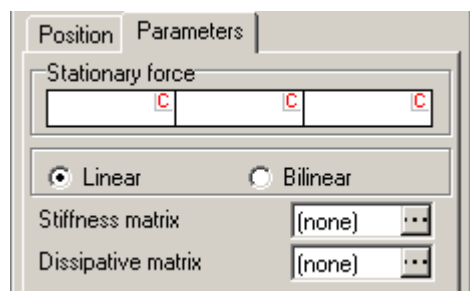
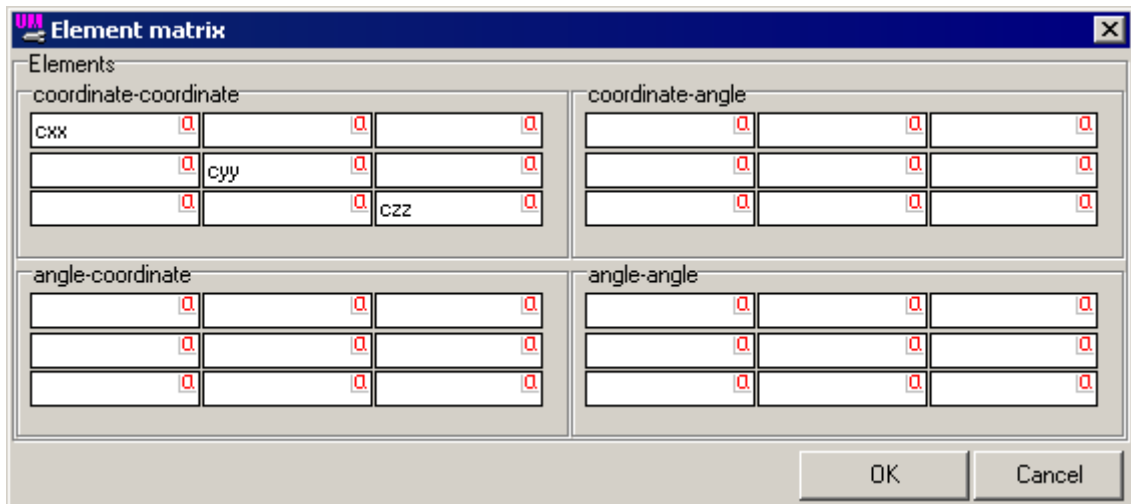

Figure 3.13
Figure 3.14
- Let us introduce a stiffness matrix of the element. Select **Parameters** tab. Click the  button in the **Stiffness matrix** box (Fig. 3.13), set diagonal elements of the matrix corresponding to the translational degrees of freedom (Fig. 3.14), and click **OK**. Set the following identifier values: **cxx=1e+6**, **cyy=1e+6**, **czz=1e+6** (N/m).